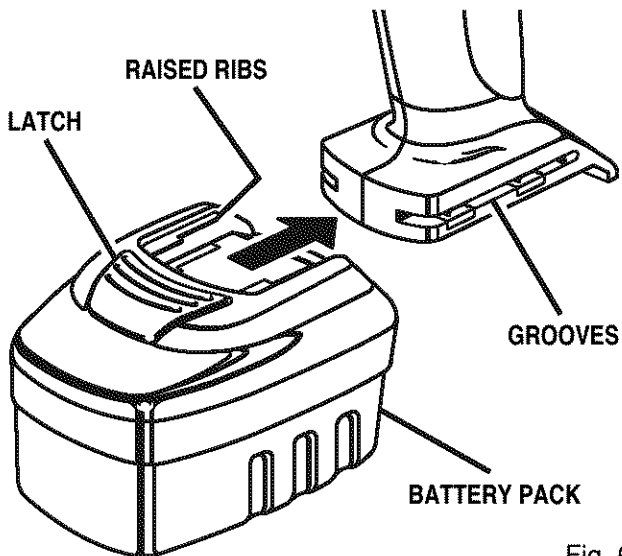

Fig. 6
See Figure 6.
- Align raised ribs on battery pack with grooves on bottom of drill, then attach battery pack to drill as shown in Figure 6.